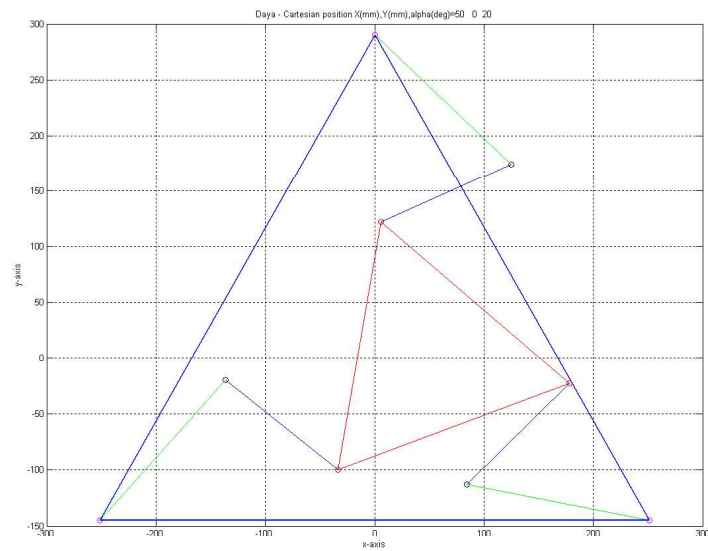

Figure 3: Simulated robot motion
- 1) Solve and implement parallel robot Inverse Kinematics. Calculate the joint coordinates θ_i where $i=1:3$ from the Cartesian parameters of the Platform's centre $\{C\}$ (where the needle is based). These parameters are the (X_c, Y_c) coordinates and the orientation of the platform (α). Plot the kinematic model in two different positions. Changing the Cartesian input parameters should adapt each leg to the new Cartesian position. An example plot is shown in Figure 3.